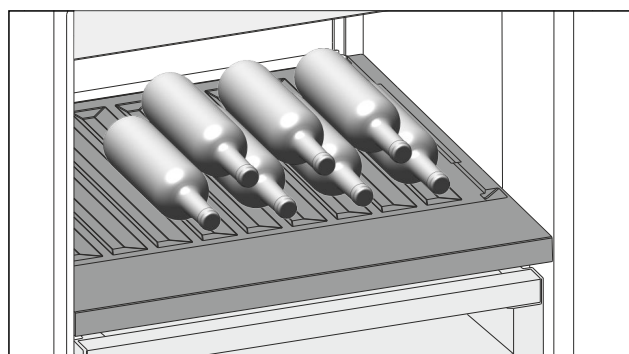

Fig. 97
- Insert the bottles facing backwards towards the rear wall. (see Fig. 97)